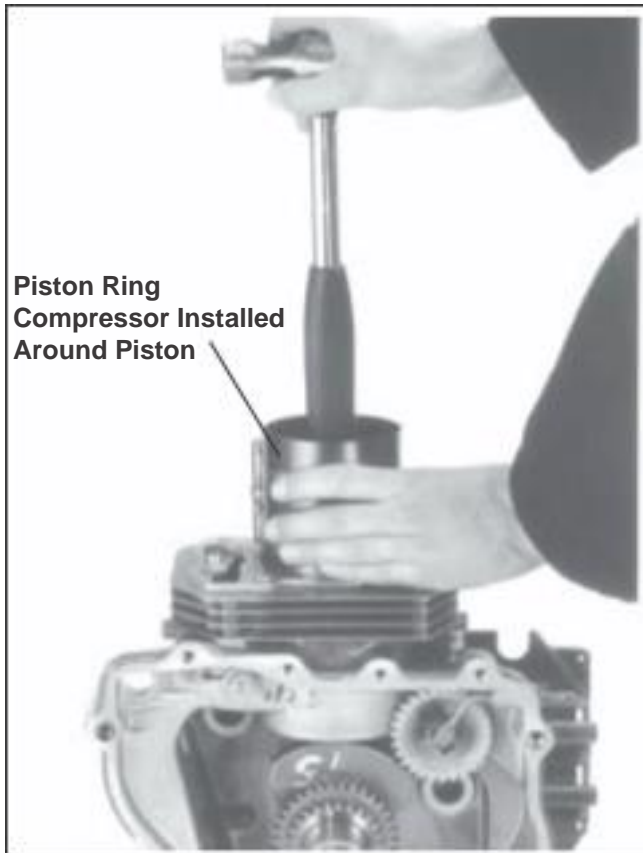

Figure 11-6. Installing Piston and Connecting Rod.
- Lubricate the cylinder bore, piston, and rings with engine oil. Compress the piston rings using a piston ring compressor. See Figure 11-6. Push the piston through the compressor so the oil control (bottom) ring is just above the lower edge of the compressor.